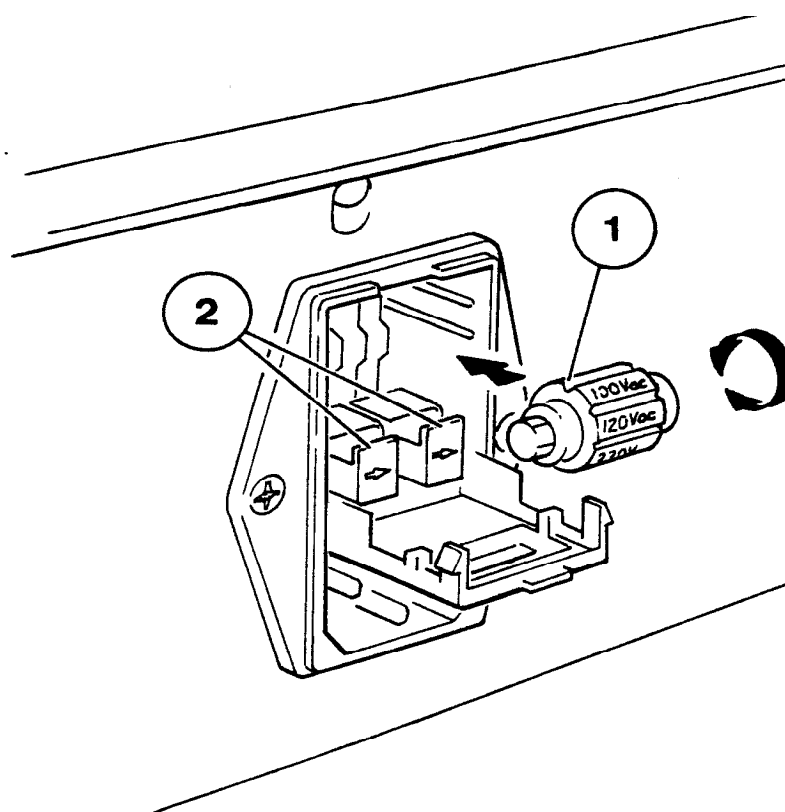

Figure 7.3 Voltage Selector and Fuse
4. Open the voltage selector compartment and withdraw the voltage selector, item 1, Figure 7.3. To replace fuses continue with paragraph 5; to change the operating voltage continue with paragraph 7.
5. Slide out the two fuse holders, item 2, Figure 7.3, and remove the fuses.